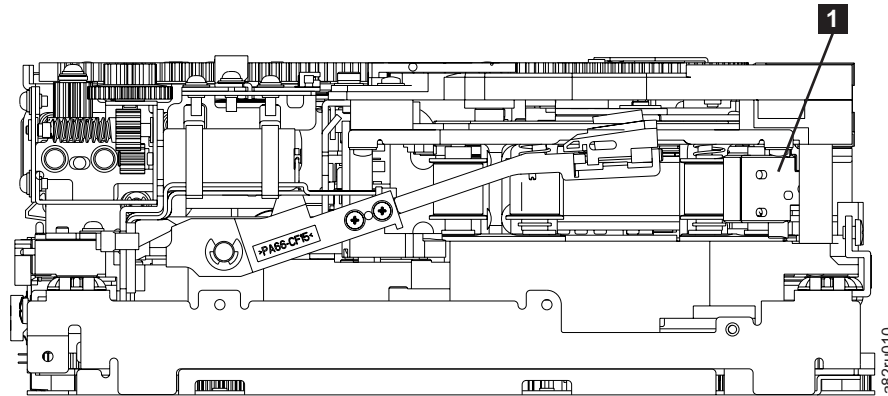

Figure 8-93. Leader Block Assembly (LBA)
9. Rotate the threader motor worm gear (**4** in Figure 8-92 on page 8-96) to turn the threader mechanism gear (**6** in Figure 8-92 on page 8-96) counterclockwise. This moves the LBA out of the cartridge and past the read/write head. Stop this rotation when the LBA is near the tape guide roller nearest the rear of the drive shown as **1** Figure 8-93.